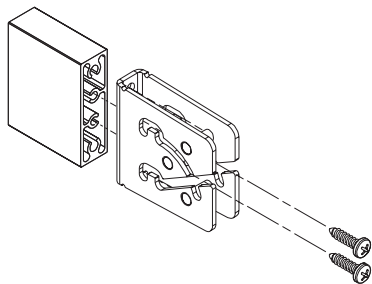

Figure 2
- ④ If you are mounting the FlexWave in conjunction with a Draper window shade, extensions are provided upon request. Mount the shades first. Attach to extensions to mounting brackets using included fasteners, then mount to wall (see Fig. 2). **The installer is responsible for selecting fasteners for securing brackets and extension to structure. They are not included.**